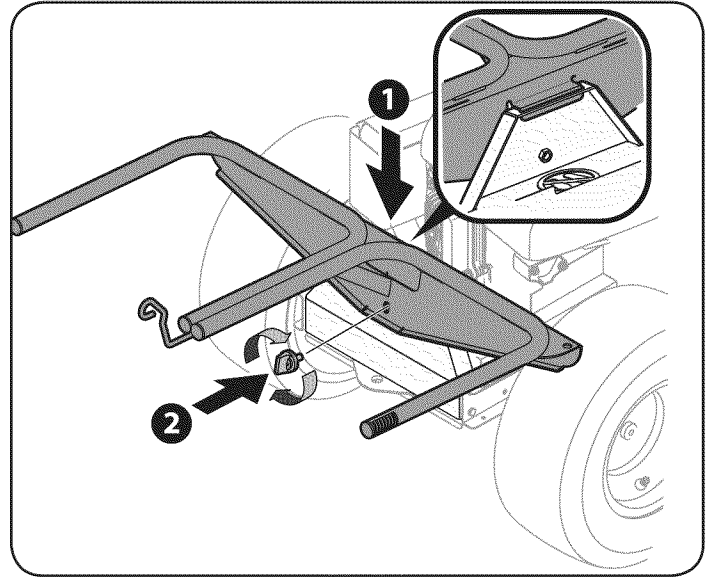

Figure 5
3. Install the grass-bag mounting assembly onto the bagger mounting bracket by lowering it down (1) and fitting the assembly into the slot provided in the mounting bracket. See the Inset in Fig. 5.
4. Secure the grass-bag mounting assembly to the bagger mounting bracket using the attachment knob (720-04061) found in the hardware pack (689-00210). See (2) in Fig. 5.